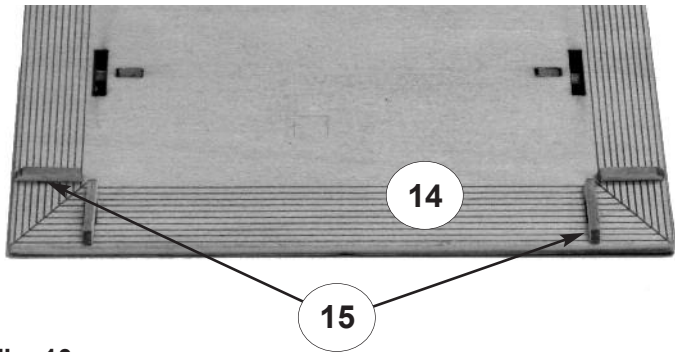

Fig. 10
11. Glue the eight support brackets 15 to the underside of the soffit 14 as shown in *Fig. 10*